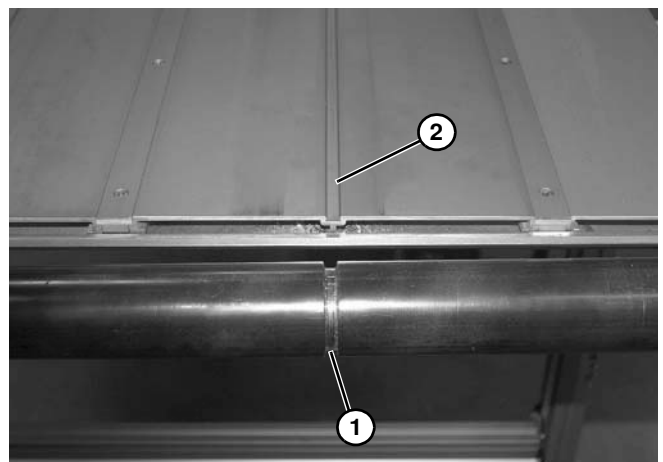

Figure 77
*Be certain to install idler tail pulley so that the pulley V-guide (**Figure 77, item 1**) mates with conveyor V-guide (**Figure 77, item 2**).*